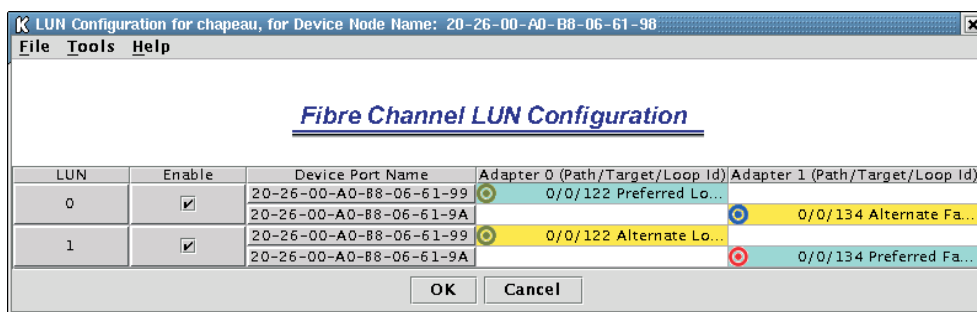

Figure 32. Preferred and alternate paths between adapters
- Your configuration should then look similar to Figure 32, which shows the preferred and alternate paths alternating between the adapters.